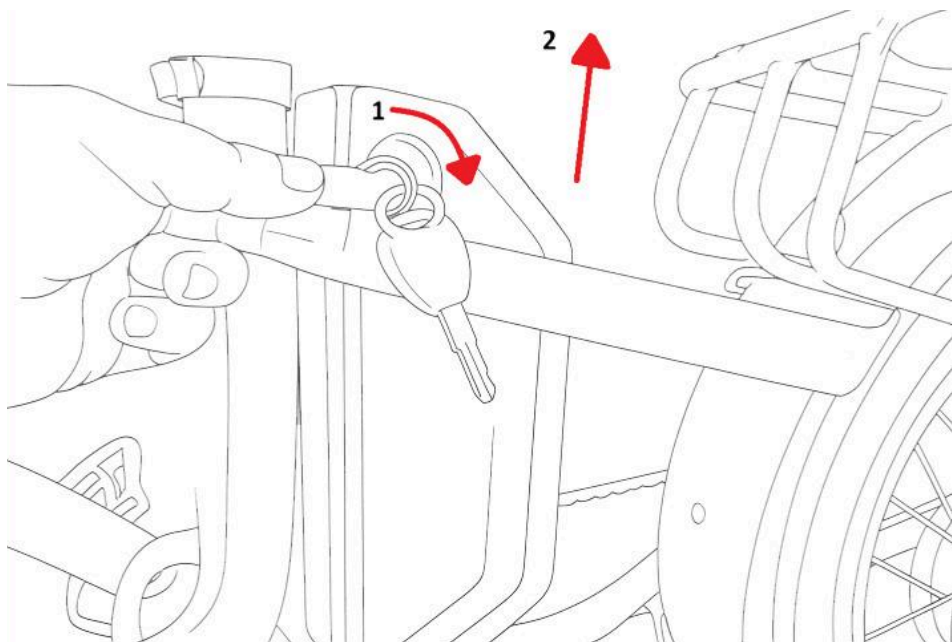

Fig. 11
1. Insert the key into the battery lock. (Fig. 11)